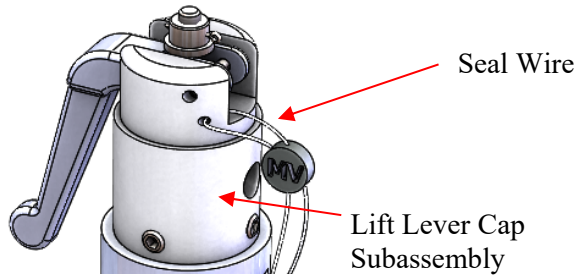

Figure 41: Lift Lever Cap
1. Cut and remove the seal wire. See Figure 41.